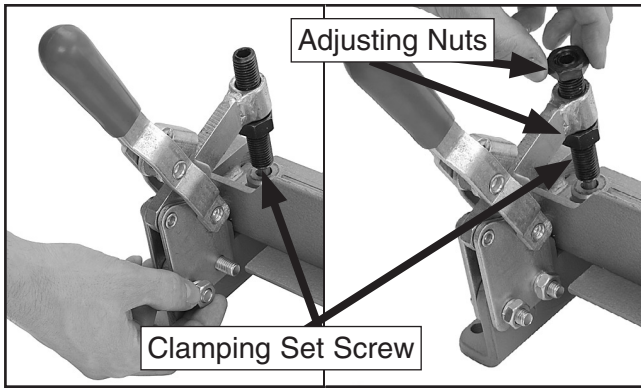

Figure 4. Clamp installation.
3. Mount each clamp assembly as shown in **Figure 4** on the next page. Ensure that each adjustment set screw shown in **Figure 4** is towards the outside of the bending brake assembly. Secure with hex bolts, lock washers and hex nuts.